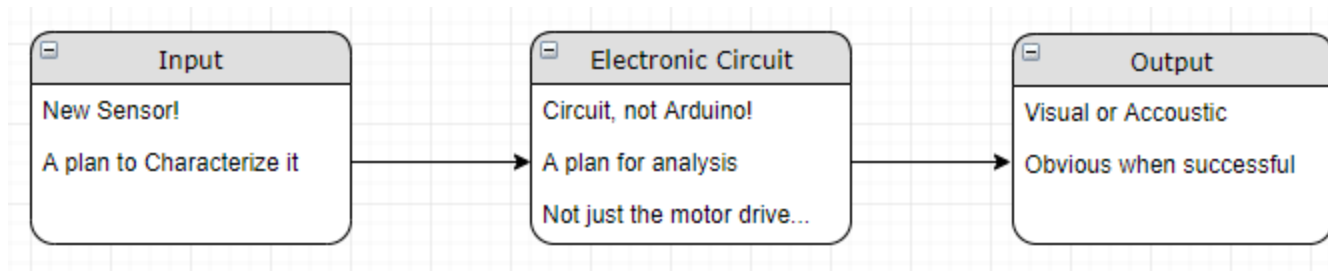

Figure 1: Three essential features of any ECE 110 Project.
4. Students commonly form a strong misconception about this course and the requirements of the final design project. ECE110 is **not a programming course**. Rather, it provides limited exposure to some scientific computing basics (using software to plot and model) and some physical computing basics (using Arduino as a measurement device and a digital controller). Only plotting (graphing) is a requirement in the final project. Other use of physical computing in the final project is purely up to the student team as most projects do not necessitate the use of a digital controller. In other words, feel free to use Arduino as part of your solution, but removal of the Arduino should still leave the three pieces (demonstrated in Figure 1) intact.